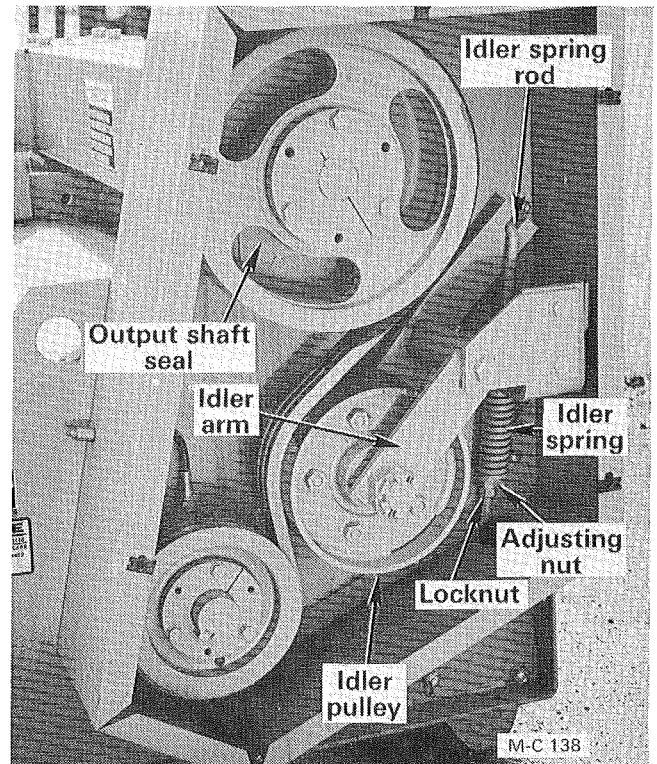

Figure 42
4. Remove the output shaft seal and the belt guard back plate, see Figure 42 and 43.
1. Remove the belt guard cover. Loosen the idler spring rod locknut and back off the idler spring adjustment nut to relieve all spring tension. Remove the idler spring rod and spring, see Figure 42.